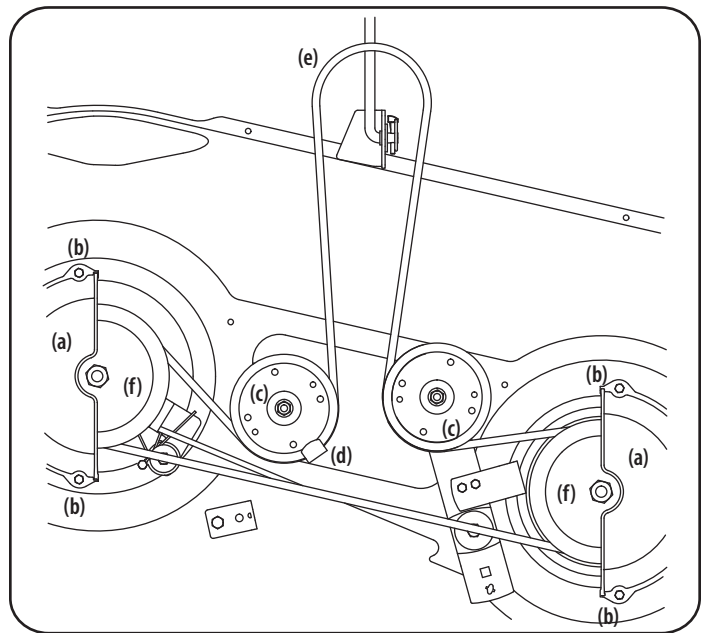

Figure 17
2. Remove the belt covers (a) by removing the hex washer screws (b) that fasten them to the deck. See Figure 17.
4. Carefully remove the deck belt (e) from around the two spindle pulleys (f) and the two deck idler pulleys (c). See Figure 17.
5. To place the new belt, begin by routing the belt around the two spindle pulleys (f). Route the belt around the two deck idler pulleys (c). Retighten the left idler pulley hex nut loosened in step 3. Remount the belt covers removed (a) in Step 2. See Figure 17.
6. Re-install the deck, making sure the belt remains routed around the pulleys as instructed. See Figure 17.